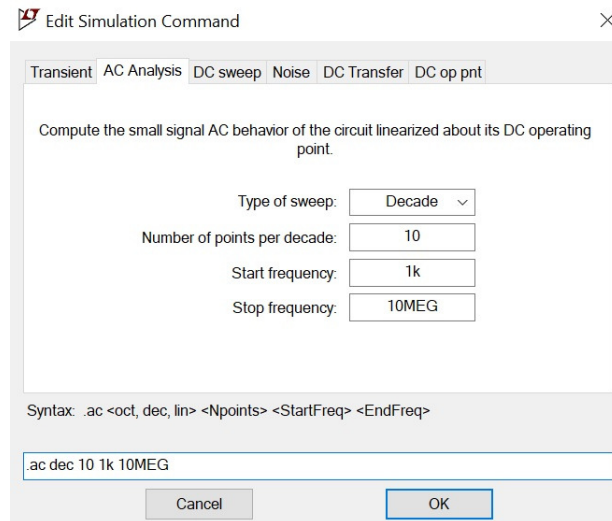

Figure 10: AC Sweep Setup
- 74) Under Small signal AC analysis (AC), in the AC Amplitude text box, type **10**
- 78) Select the **AC Analysis** tab, and fill out the parameters as displayed in Figure 10 below